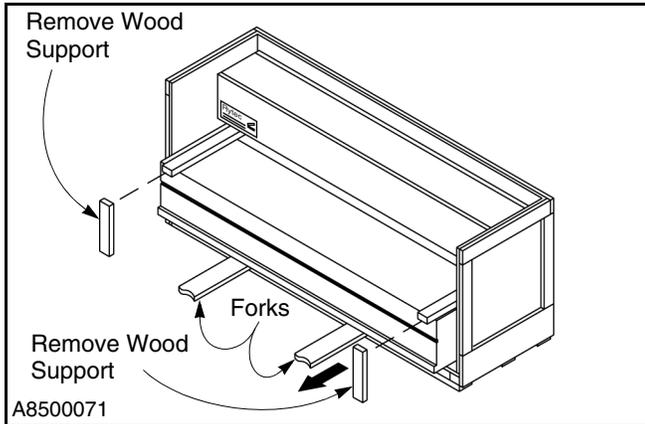

Figure 12
1. Remove the right side column from the shipping crate. (See Figure 12.)